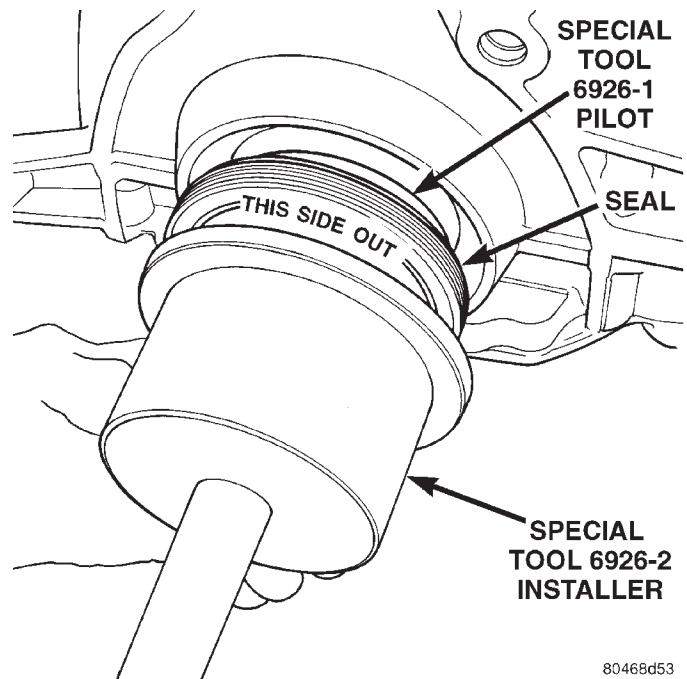
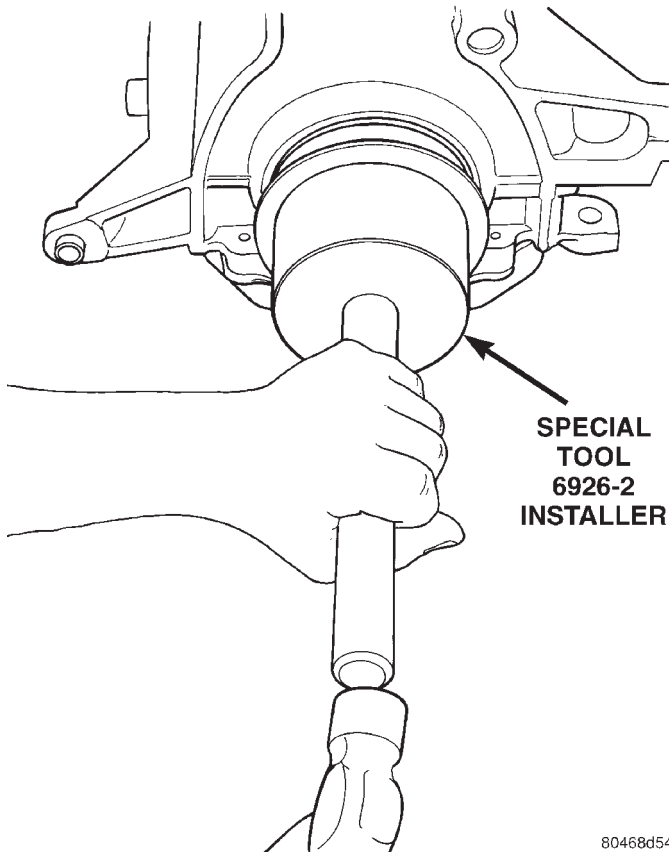

Fig. 99 Crankshaft Seal Special Tool 6926-2
Fig. 100 Rear Crankshaft Seal—Installation
- (3) Drive the seal into the block using Special Tool 6926-2 and handle C-4171 (Fig. 99) until the tool bottoms out against the block (Fig. 100).